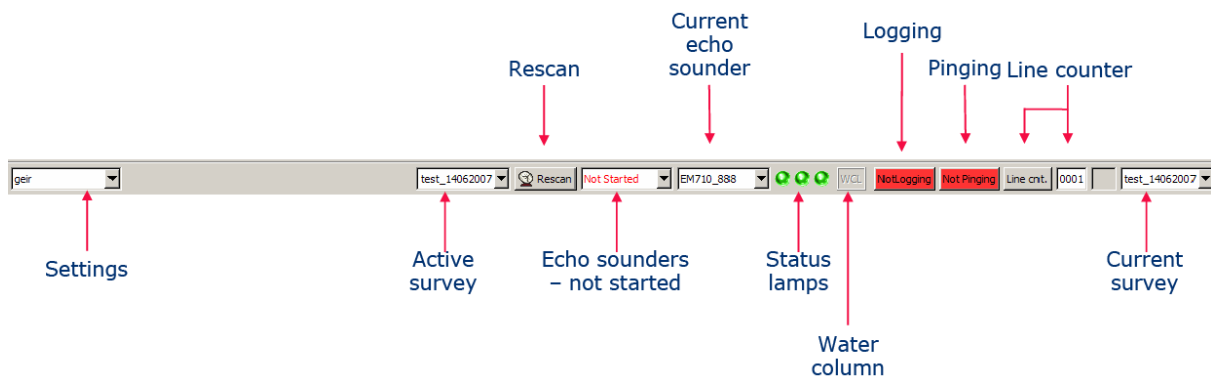

Figure 8: The main frame
Before starting pinging, the echo sounder must be turned on. Select the echo sounder from the **Echo sounder - not started** combo box (Figure 8). The **Logging** and **Pinging** buttons will all be disabled until the echo sounder is ready. When the echo sounder is ready, pinging can be started.
Pinging must be started manually after the echo sounder is ready. Press the **Pinging** button on the toolbar. The button is red when **Off** and green when **On** (Figure 8).
**Logging** must be started manually after the echo sounder is ready. When the echo sounder has started logging, data is automatically saved to disk in \*.all file format (Figure 8).
For logging the water column data from the water column view select the Water Column frame. Select its Show/Hide toolbar button and toggle the Logging option in the popup window. The water column symbol (Figure 8, WCD) will be green during logging. This data will be logged to \*.wcd files in your selected folder, separately from the \*.all files.
- Observe the three status lamps on the main toolbar which give status of hardware units (applies to multibeam echo sounders only) (Figure 8).